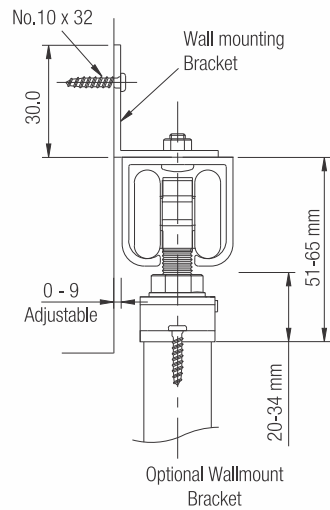

Fig. 4
5. Optional wall mounting brackets are available. This is to be fitted every 600mm on aluminium section (Refer Fig. 4).